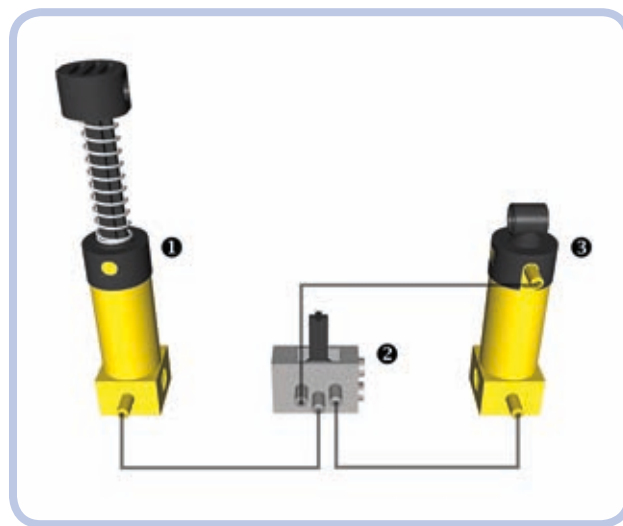

Figure 9-2: The New pneumatic system uses a simple design.
LEGO introduced the New pneumatic system (shown in Figure 9-2) in 1989 with the goal of simplicity and efficiency. The New system eliminated the distribution block and redesigned the pumps and cylinders, though it does use the Old valves. This new system is much more like real pneumatic and hydraulic systems.
The yellow element at ❹ in Figure 9-2 is a pump that works only with the New system. The light-grey valve at ❷ is the same as that in the Old system except that it is connected a bit differently: Air is delivered into it through the middle port, and its side ports are connected to the cylinder. Either valve's port can be connected to either cylinder's port; this connection determines which of the valve's two extreme positions makes the cylinder extend or retract.